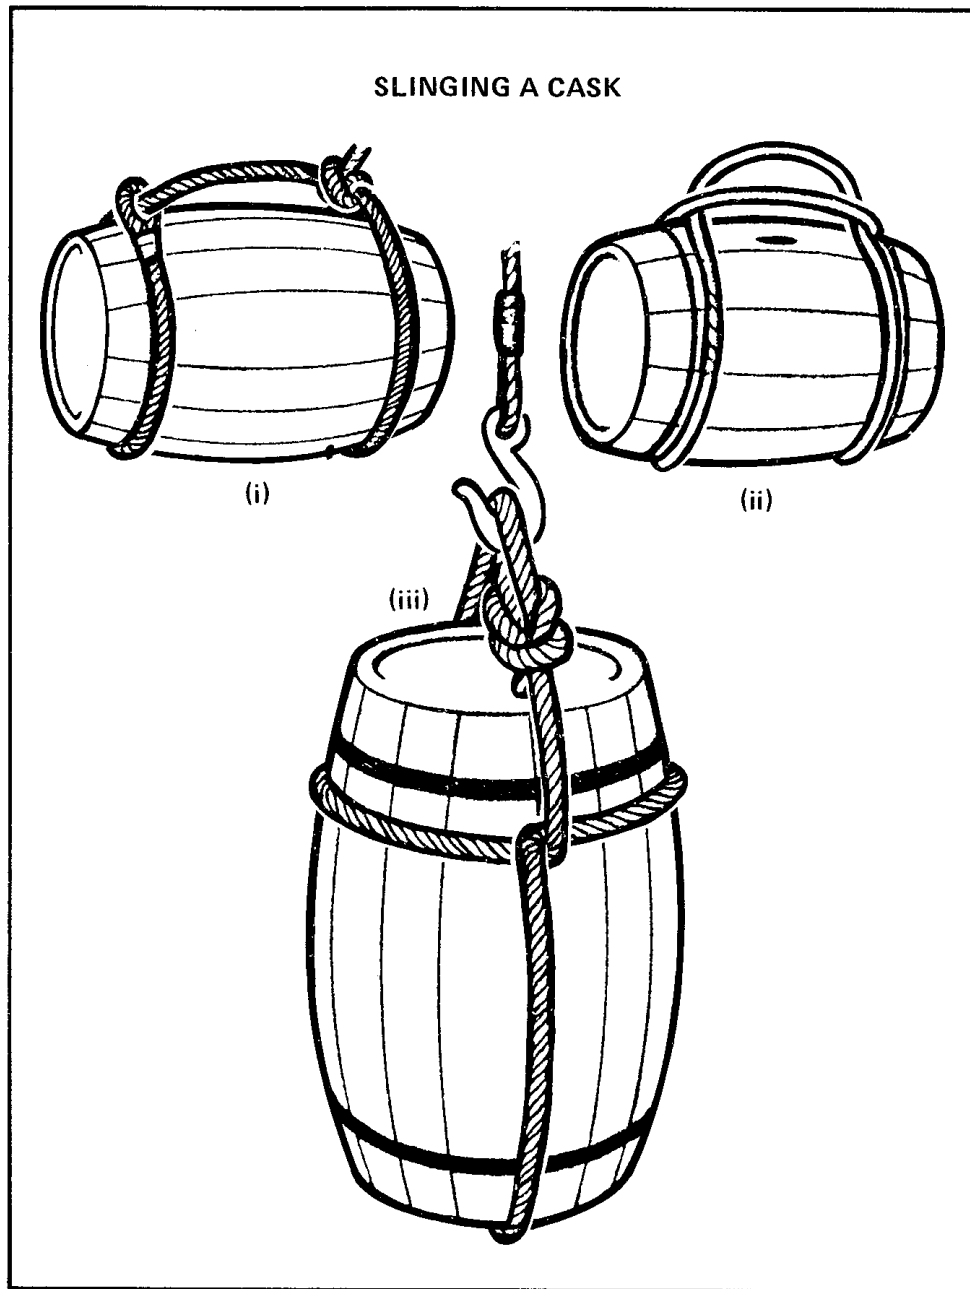

Figure 4-70 Slinging a Cask
- a. **Horizontally** - A butt sling or a bale sling can be used for slinging a cask. Place the cask on its bilge with its bung up. If using a butt-sling, pass it round one end of the cask and through its own eye; then pass the tail round the other end of the cask, in the same direction as the standing part from the eye, and finish by clove-hitching the end of its own part (see Figure 4-70 (i)). If using a bale, sling middle it under the cask and dip one bight through the other (see Figure 4-70 (ii)).
- b. **Head Up** — (See Figure 4-70 (iii).) — This method is used if the head of a cask is missing or damaged. Place the cask on its end, pass a rope under the cask, and with the ends make an overhand knot on the top of it; then open out the knot and slide the two halves down the sides to a quarters of the way down the cask; haul taut and finish off with a reef knot on the top.